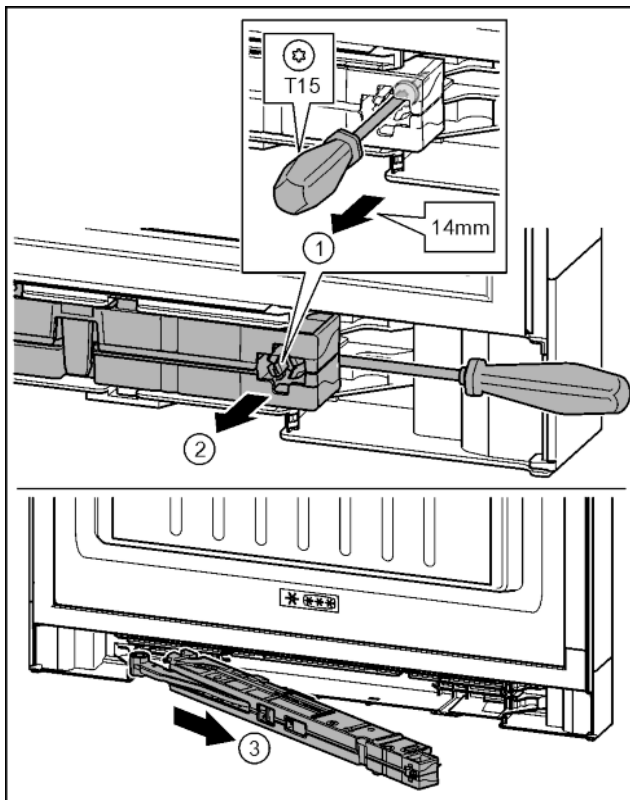

Fig. 16
- Undo the screw on the soft stop mechanism about 14 mm with a T15 screwdriver. Fig. 16 (1)
- Insert the screwdriver on the handle side behind the soft stop mechanism. Turn the unit forwards. Fig. 16 (2)
- Remove the unit. Fig. 16 (3)